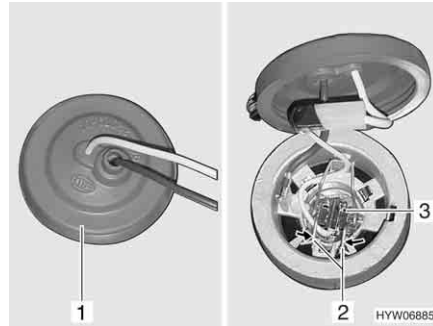

Fig. 256 Fog light
- Put your hand behind the fog light and remove rubber cap (Fig. 256,1) from lamp housing.
- Press metal clip (Fig. 256,2) together and release from holder.
- Remove bulb (Fig. 256,3) with cable from lamp housing.